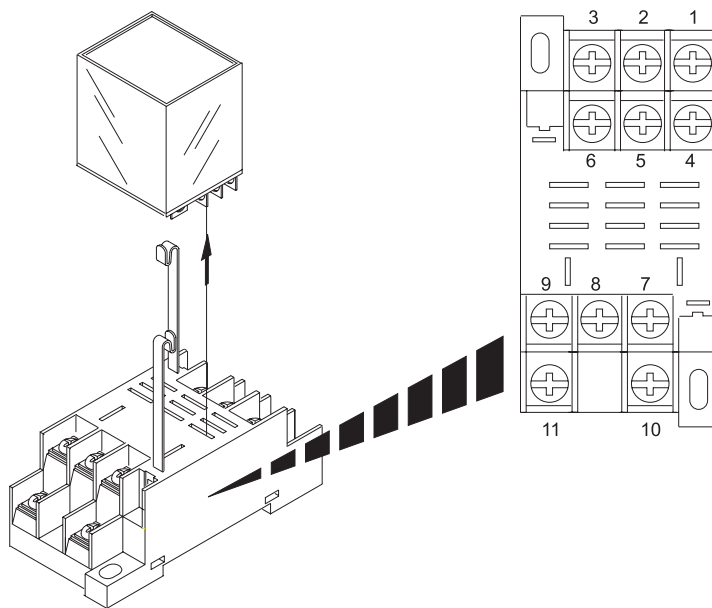

Figure 4
1. Remove the relay (P/N 11-696644-000) from the relay base (P/N 11-696645-000). Refer to *Figure 4*.